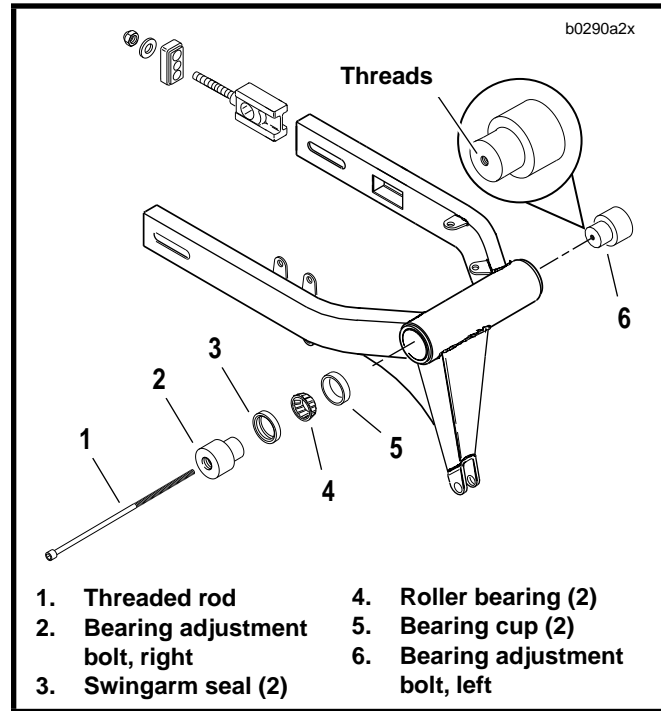

Figure 14. Swingarm
See Figure 14. The threaded rod (1) replaces a pivot shaft used on 1996 models. This new part changes the **SWING-ARM, ASSEMBLY** and **SWINGARM, INSTALLATION** procedures in the 1996 manual.
1. See Figure 14. If necessary, draw **new** roller bearing cups (5) into swingarm using **BEARING INSTALLATION BOLT** (Part No. B-35316-5) and **STEERING HEAD BEARING RACE INSTALLER** (Part No. HD-39302).
See Figure 14. The left side bearing adjustment bolt (6) has additional internal threads.
5. Install both bearing adjustment bolts (2, 6) and the threaded rod (1). Insert the rod from the air cleaner side of the motorcycle.